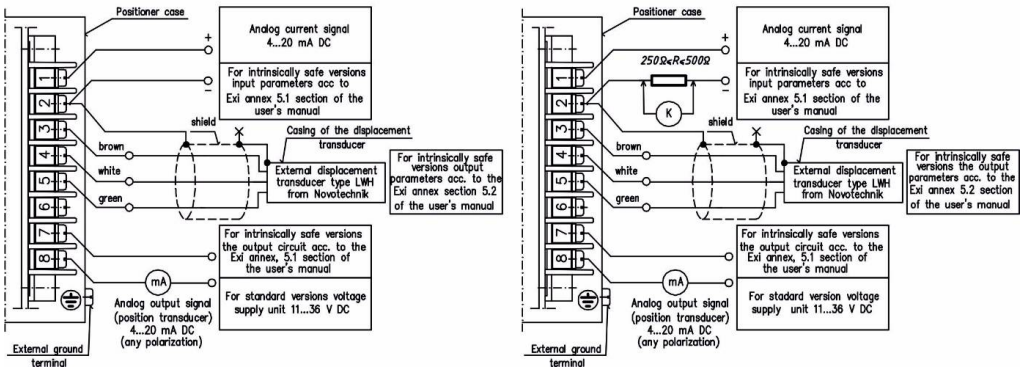

Fig. 21c Wiring of positioner for the executions with an external displacement transducer if:
- If the shield of the cable of potentiometer is connected galvanically to potentiometer's case (Fig. 21c) then the potentiometer's case should not be grounded (in order to disrupt current loop).